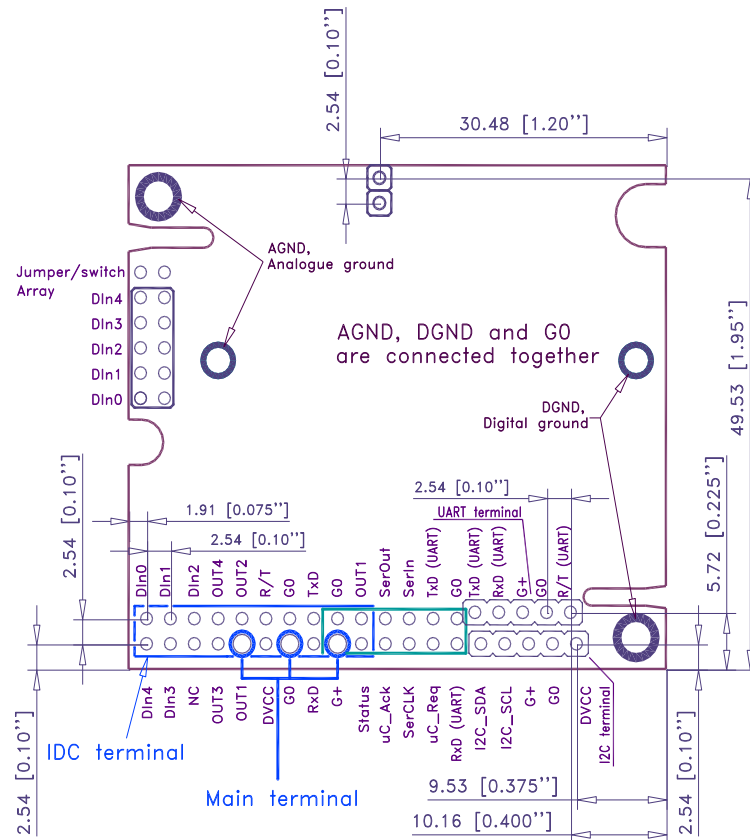

Figure 2. CO₂ Engine® K30 I/O notations, terminal positions and some important dimensions for mounting the K30 platform PCB into a host system (Top view).
The table below specifies what terminals and I/O options are available in the general **K30** platform (see also the layout picture Fig. 2). Please note, however, that in the **CO₂ Engine® K30** default configuration, only OUT1, OUT2, Din1, Din2 and Status have any pre-programmed functions. These are described in the chapter “Default Configuration”.
The modules are factory calibrated and ready for use directly after power up. There are several alternative ways to connect the **CO₂ Engine® K30** to a host system (see also figure 2):
- The two screw points in the upper left corner (having the IDC and edge connectors faced downwards, as in Figure 2) are connected to the *analogue* ground. They are the preferred choice for connection to some EMI shield, if so is required. This is normally necessary only if the application is such that large EMFs are foreseen. If this option is being used, precaution must be taken so as to exclude any power supply currents! Sensor reading instability is an indication of the need for shielding, or of improper enclosure system groundings.